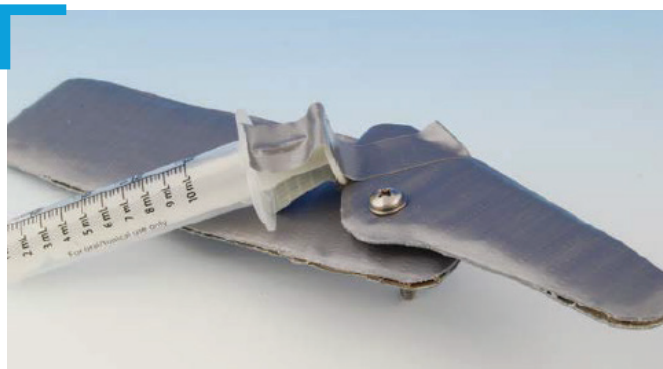

Figure 3
6. **Attach** the plunger of one syringe to the shorter piece of cardboard as indicated on the pattern. Tear one of the narrower pieces of duct tape in half, and wrap it around the plunger and cardboard as shown in Figure 3. Now wrap a second narrow piece of duct tape around the plunger at right angles to the first piece of tape. Add more tape if necessary, but you do not want the joint between the plunger and cardboard to be too tight.